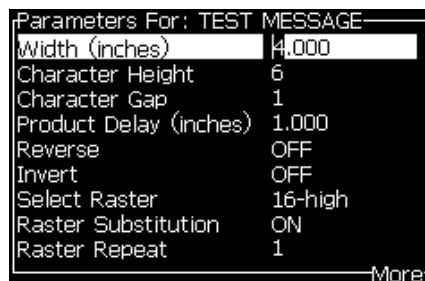

Figure 5-12: Message Parameters Dialog Box
- 2 Under the *Messages* menu, select the Message Parameters (Figure 5-12 on page 5-25) to edit the values.